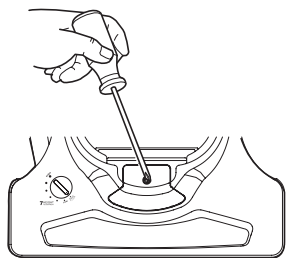

Fig. 28
- Remove the headlight cover by removing the screw with a Phillips screwdriver. (Fig. 28)